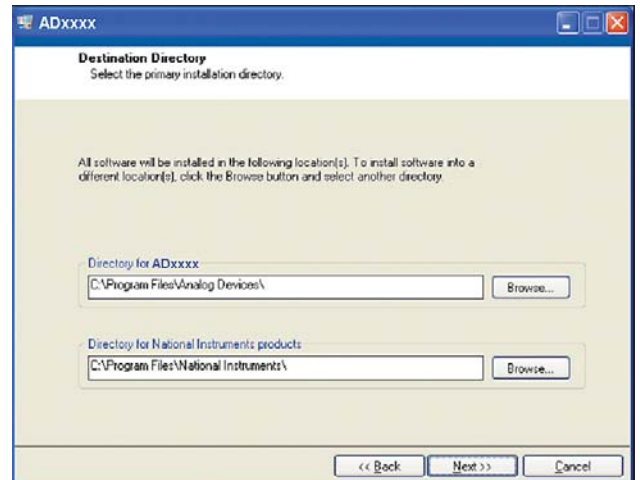

Figure 6. **AD7124-4 EVAL+ Software** Installation: Selecting the Location for Software Installation
4. Select the location to install the software, and then click **Next**. (Figure 6 shows the default locations, which are displayed when the window opens; you can select another location by clicking **Browse**.)